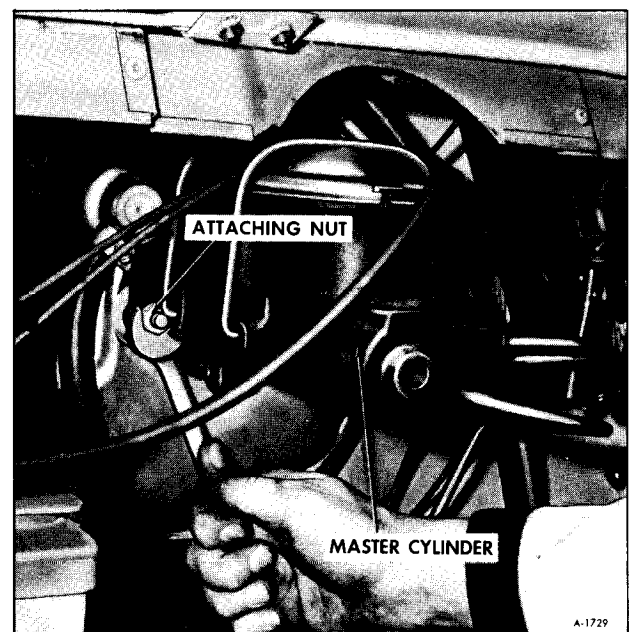

Figure 15—Removing Master Cylinder
2. Remove two master cylinder attaching nuts and remove master cylinder as shown in Figure 15.